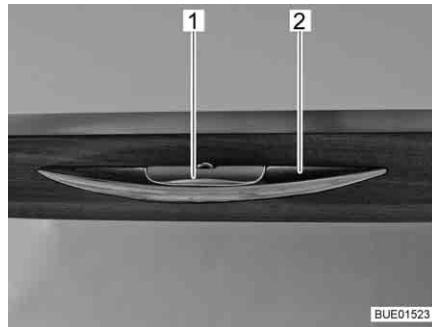

Fig. 54 Furniture flap with release handle
- Press the release handle (Fig. 54,1) and hold it down.
- Pull the handle (Fig. 54,2) until the furniture flap is open.